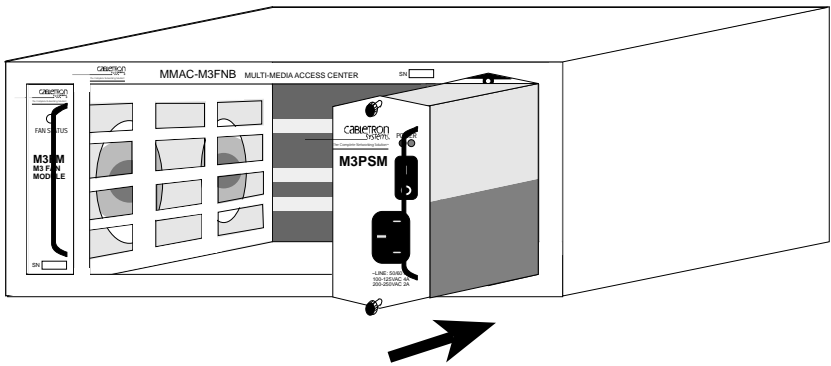

Figure 3-4. Installing the Power Supply Module
3. Slide the M3PSM into the slot of the MMAC-M3FNB (Figure 3-4, following page) as follows: